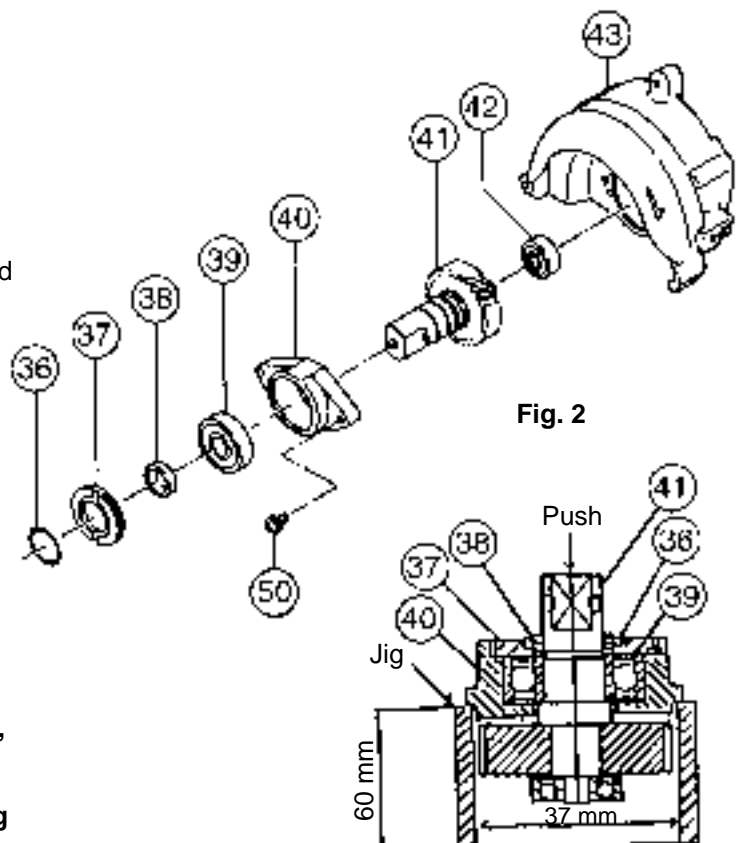

Fig. 2
(3) Disassembly of the spindle gear.
- ① Loosen the two Seal Lock Screws M5 x 25 **[50]**, and tap gently on the end surface of the Gear Cover **[43]** with a wooden or plastic hammer to loosen and remove the Bearing Holder **[40]**, the Spindle and Gear Set **[41]** and related parts, as shown in Fig. 2.
- ② Support the Bearing Holder **[40]** with an appropriate jig, and push down on the end surface of the spindle to take off the Spindle and Gear Set **[41]**, Distance Piece **[38]** and O-Ring **[36]** with a hand press.